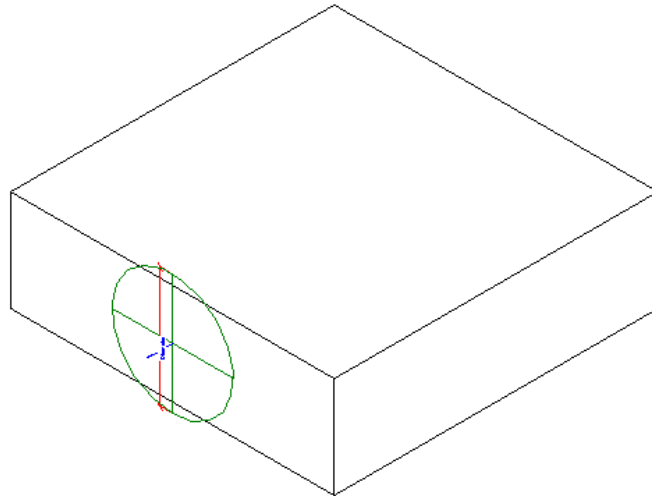

Figure 2.24
22. In the view window as shown in Figure 2.24: